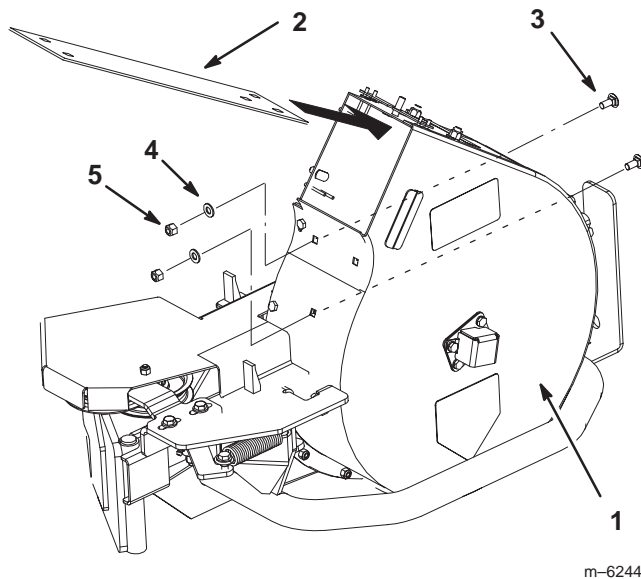

Figure 34
3. Remove the five bolts that hold the blower liner to the blower (Figures 34 and 35).
4. Pull the liner out of the blower (Fig. 34).
6. Install 3 bolts into the rear of the blower and the liner (Fig. 34).